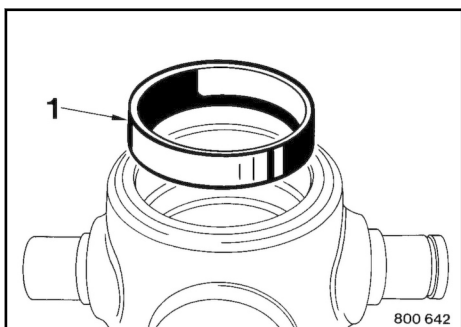

Fig. 193
9. Remove outer bearing race 1 ↗ Fig. 193.